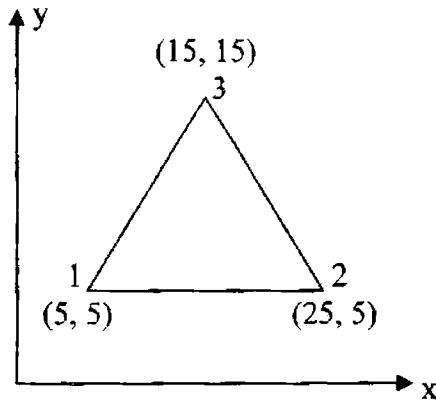

Figure 6 Triangular Element
14. (a) For the plane strain element shown in the Figure 6, the nodal displacements are given as :  $u_1 = 0.005$  mm,  $u_2 = 0.002$  mm,  $u_3 = 0.0$  mm,  $u_4 = 0.0$  mm,  $u_5 = 0.004$  mm,  $u_6 = 0.0$  mm. Determine the element stresses. Take  $E = 200$  Gpa and  $\gamma = 0.3$ . Use unit thickness for plane strain.